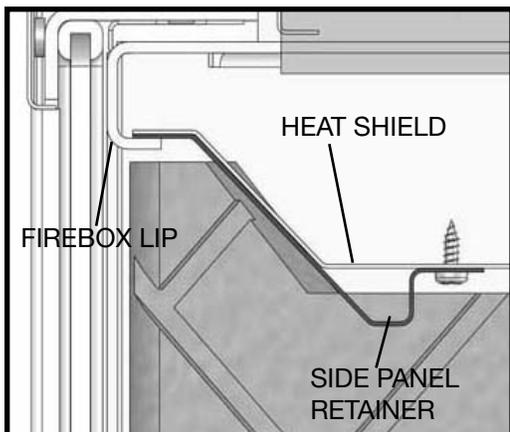

Figure 56: Panel Retainer.
1. Remove the Side Panel Retainer located on the underside of the firebox heat shield. The retainer slips between the lip of the firebox and the heat shield and is retained in place by two screws Figure 56.